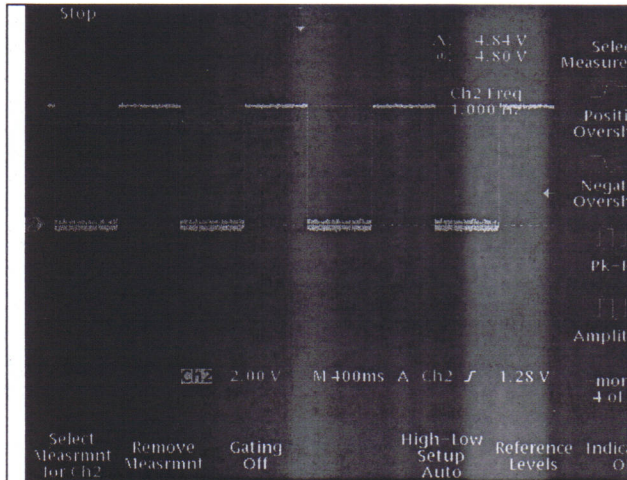

Figure 4: 1 Hz
1. Figures 4 thru 15 show the output of our receiver circuit before we put the filtering capacitor in. The transmitted signal varies in frequency but is a square wave, 50% duty cycle. Our output duty cycle is not quite 50% as we increase the frequency on the transmitter. This is most likely due to the fact that the solar cells have some internal capacitance and act as a battery when there is no light to charge.